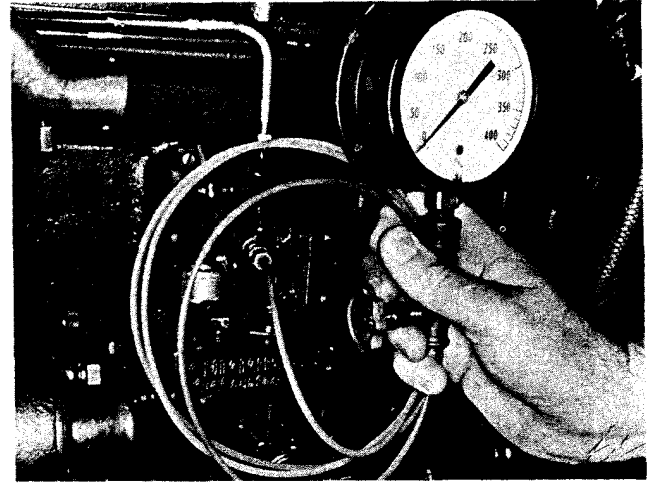

Fig. 2-27, (N11966). Checking fuel manifold pressure with ST-435
5. Check maximum fuel manifold pressure with ST-435, Fig. 2-27. Remove 1/8 inch pipe plug from side of fuel shut-off valve on top of fuel pump. Connect the gauge line in pipe plug hole.